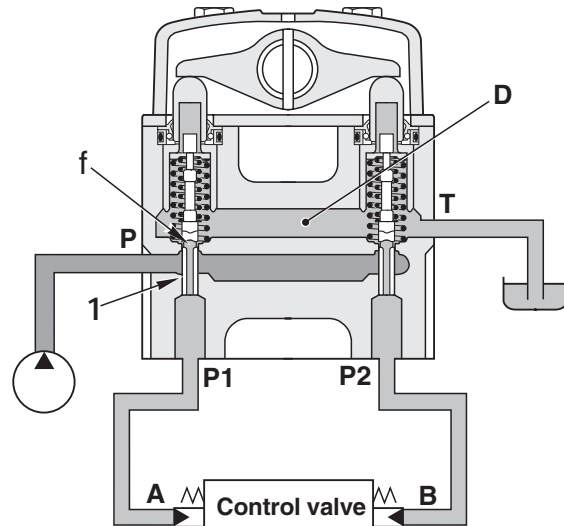

Fig. 1
Ports **A** and **B** of the control valve and ports **P1** and **P2** of the PPC valve are connected to drain chamber **D** through fine control hole **f** in spool (1). (Fig. 1).